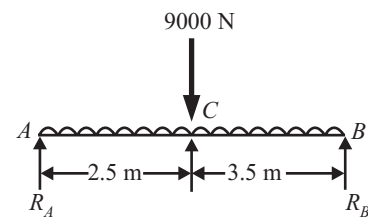

Fig. 16.19
Q. 28: A beam is freely supported on supports as shown in fig 16.19 carries a UDL of 12 KN/m and a concentrated load. If the stress in beam is not to exceed 8N/mm². Design a suitable section making the depth twice the width.